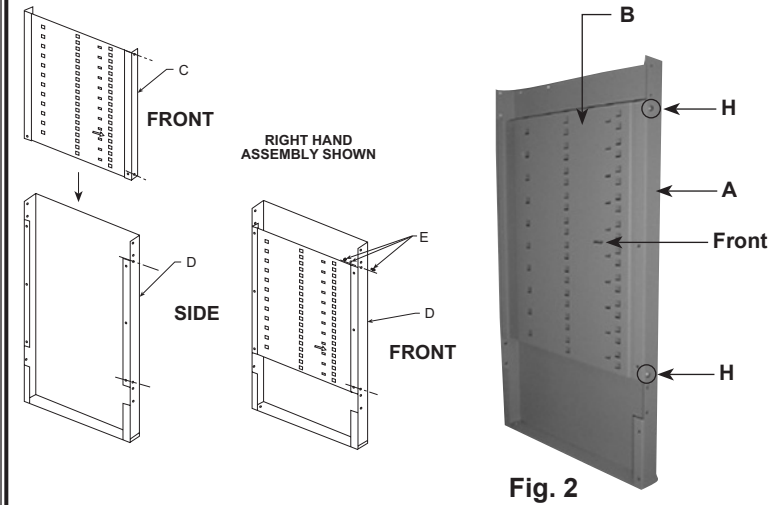

Fig. 2
1. Insert Inner Panel (B) into End Panel (A) as shown in Fig. 2. Arrow ► on inner panel points toward front of assembly.
2. Attach Inner Panel (B) to End Panel (A) front with (2) Fasteners (H) for each panel. **Note:** Do not attach back fasteners at this time.